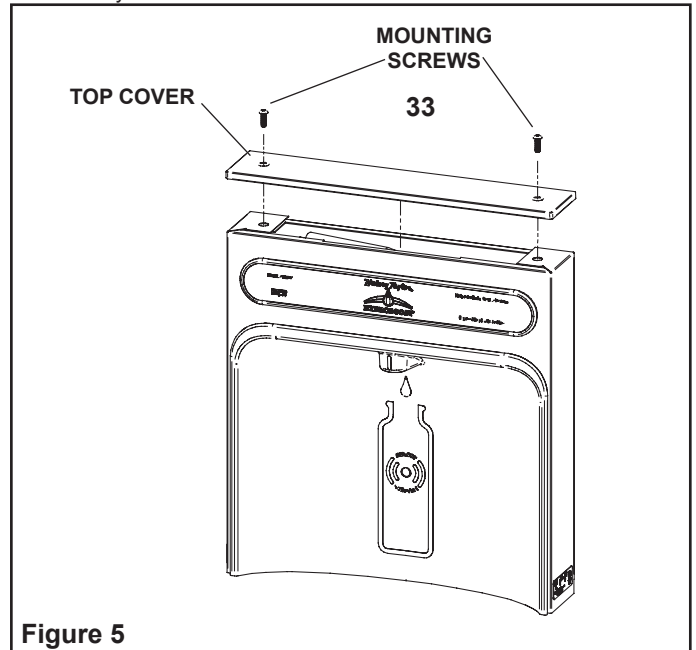
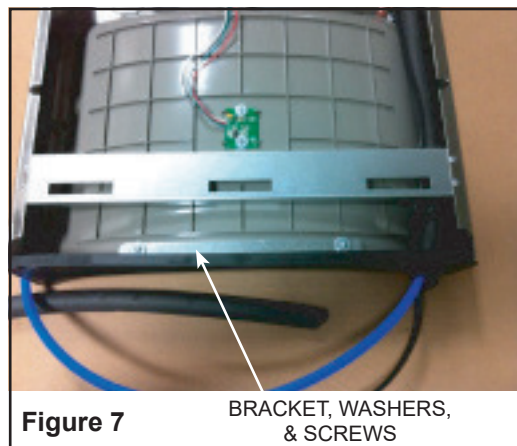

Figure 5
Figure 7
1. Remove two (2) mounting screws with 5/32" (4mm) Allen wrench holding top cover to Bottle Filler (See Fig. 5). Remove top cover. Note do not discard mounting screws, they will be needed to reinstall top cover.
6. Install gasket on bottom of bottle filler tower with gasket support bracket, (2) washers, & (2) screws (See Fig 7).
8. With the power cord (not provided) and waterline through hole on top of water cooler place Bottle Filler on the three (3) angled tabs protruding from the wall mounting plate installed on wall. Make sure round boss in gasket fits in hole of basin.
9. Once Bottle Filler is installed on wall plate tabs, water line and power cord are installed properly, push top of Bottle Filler toward wall and line up top cover two (2) holes.
10. Reinstall Top Cover on Bottle Filler (See Fig. 5) with two mounting screws from step 1 above. Caution, do not over tighten screws.